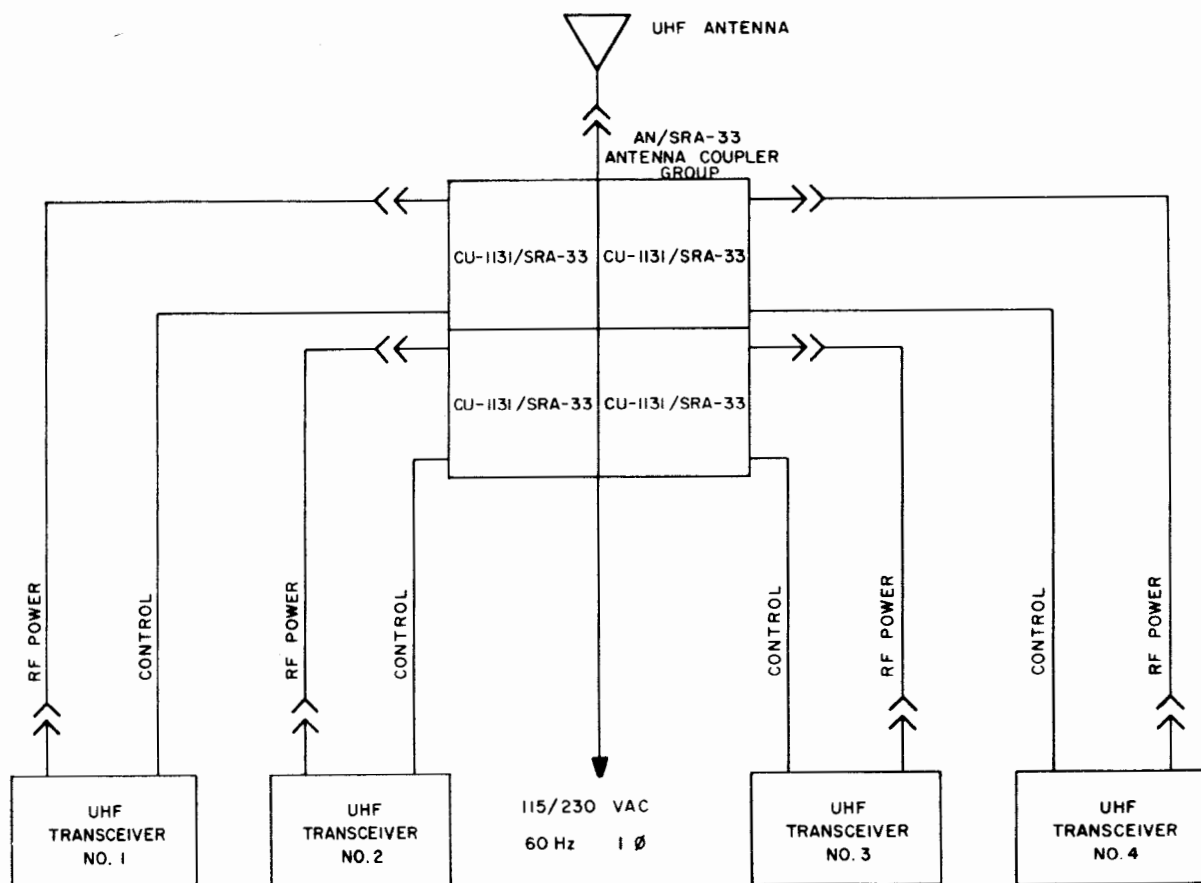

Figure 2-2 Antenna Coupler Group AN/SRA-33, Interconnection Diagram.
- c. INTERCONNECTION CABLING DIAGRAM. - See Figure 2-2.